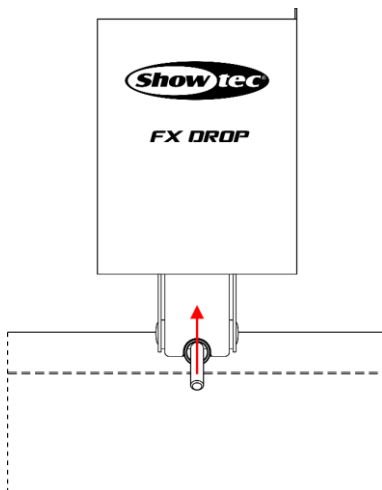
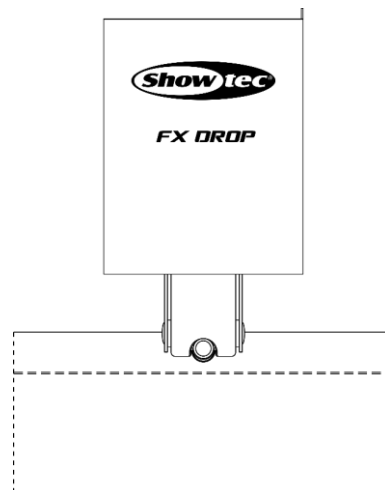

Fig. 07
Fig. 08
- 03) Push the **drop hook (03)** upwards to lock it at its place as shown on Fig. 07. The object will be now securely suspended as shown on Fig. 08.